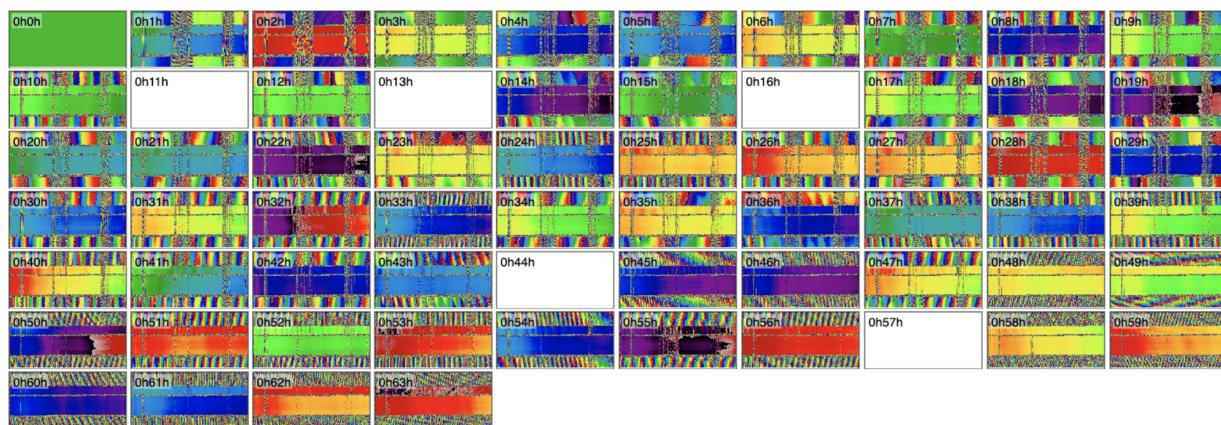

Figure 9.10: Vertical polarisation plot (wtabvv)
- Vertical polarisation waterfall plot (wtabvv), see **Figure 9.10**